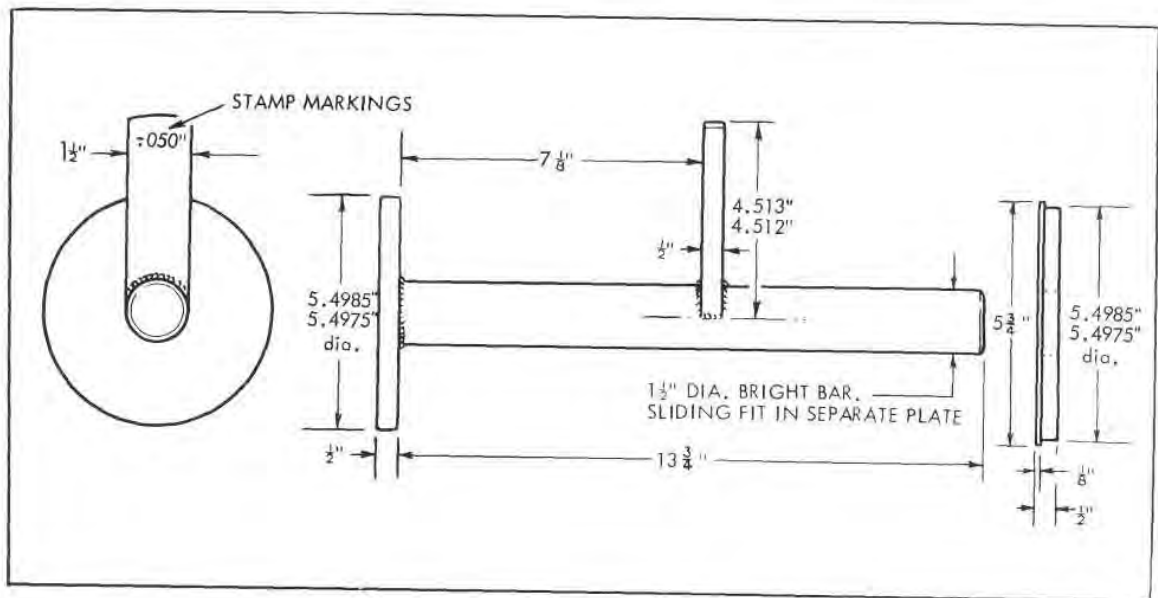

Fig. K4 — Differential Setting Gauge
6. Install the pinion assembly in the differential housing. A gauge, as shown in Fig. K4 may be used to adjust the pinion to the cone centre distance from the crownwheel centre line.